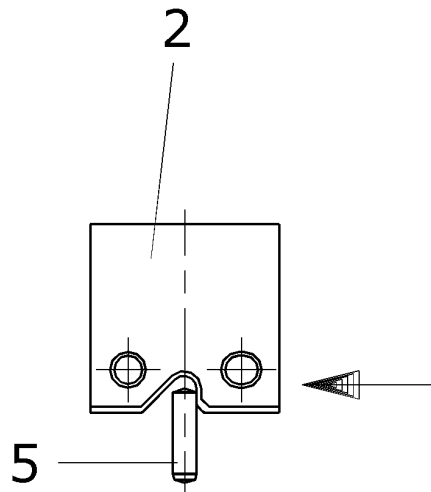

Fig.3
7. Press the profile knife gently against the stop pin (5) as shown in Fig. 3